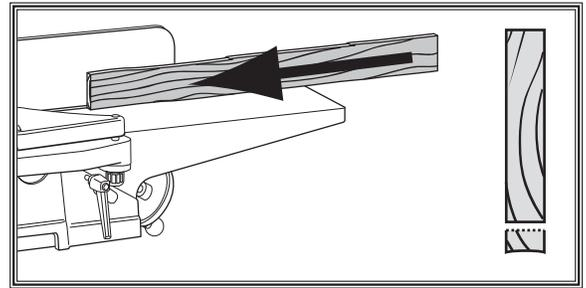

Figure 39. Edge jointing on a jointer.
1. Edge joint concave edge of 2x4 flat on a jointer, as shown in **Figure 39**.